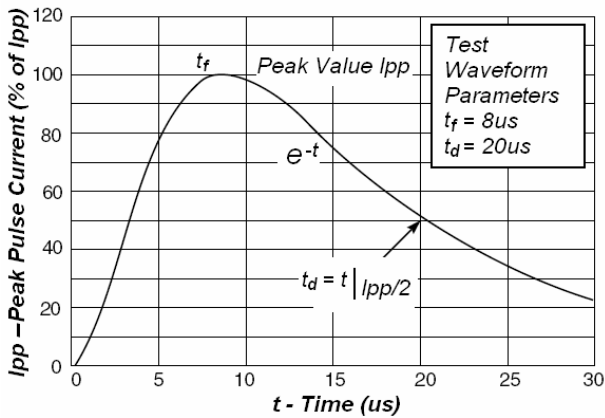

Fig2. Pulse Waveform
1. 8/20 waveform used. (see fig2.)